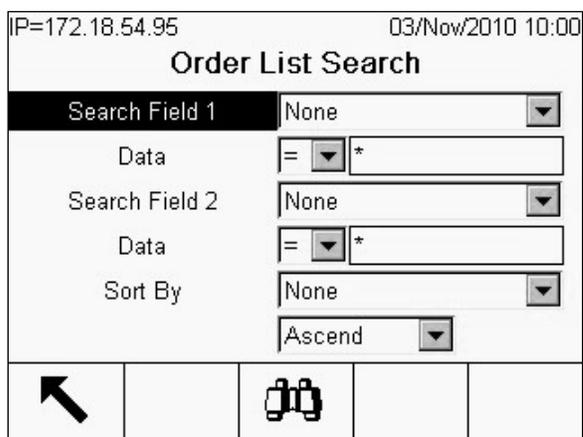

Figure 2-40: Order List Search Screen
1. Select the Report Type from the drop-down list, then press the TABLE VIEW softkey . This will open a table search screen with filtering options that vary depending on the type of report selected. Figure 2-40 shows the Order List Search screen.